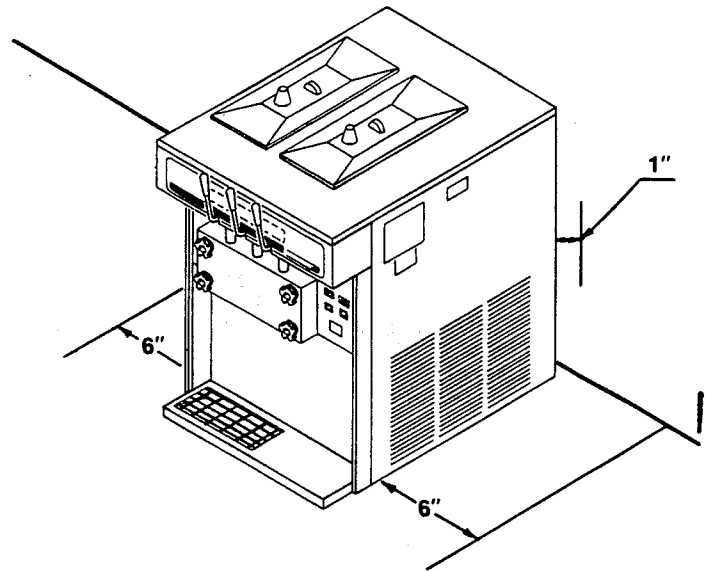

Figure 4.
Air cooled requires minimum 6" (15.2 cm) air clearance on right hand side, 6" (15.2 cm) air clearance on left hand side and 1" (2.54 cm) in the rear. (See Fig. 4.)
- C. Air cooled freezers require correct ventilation. The right side of the freezer is the air intake and **must** have a 6" (15.2 cm) clearance. Air discharges out of the left side of the unit (Fig. 4). **Do not** obstruct the discharge.